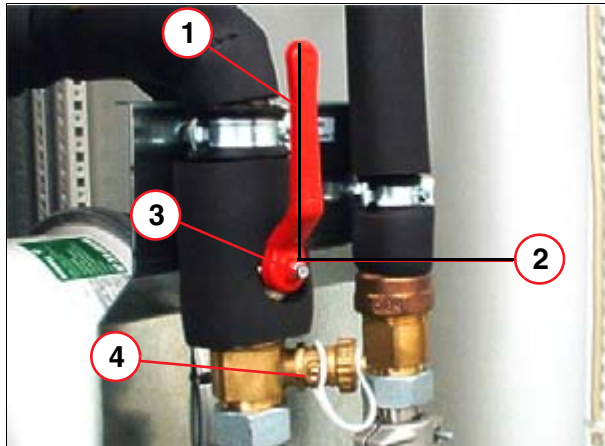

Fig. 11: Shut-off valve at WCS "Gantry water inlet"
2. Remove the shutter of the filling and draining valves (4/Fig. 11 / p. 17) and connect the water hoses .
- ⇒ The lever is lined up with the connection pipe (1/ Fig. 11 / p. 17).